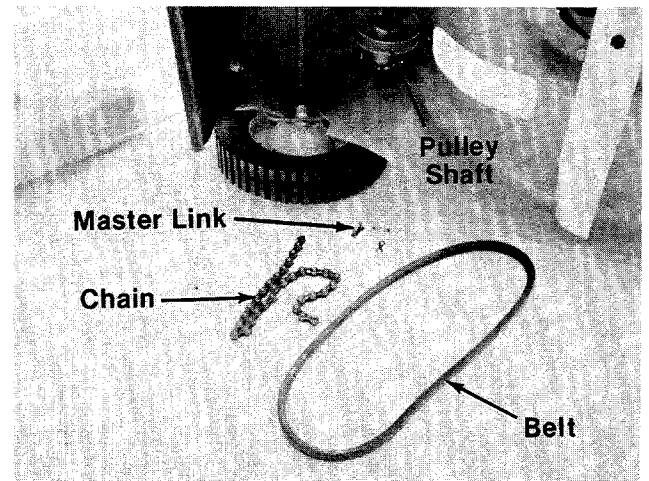

FIGURE 28.
10. Remove the chain, pulley shaft and belt. See figure 28.